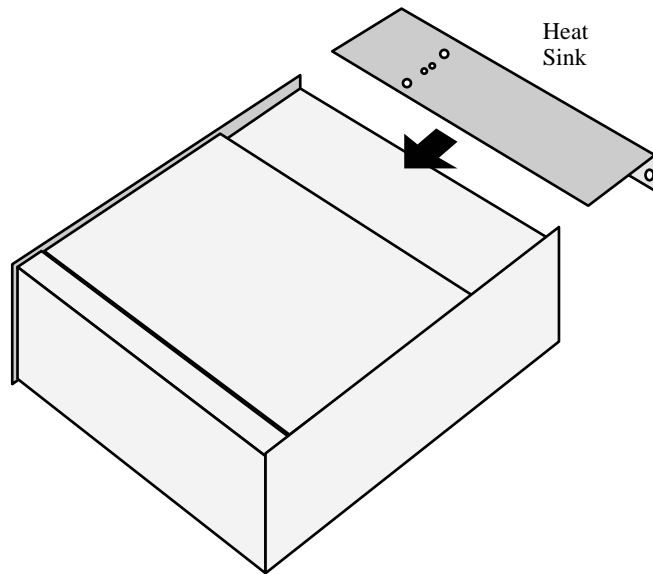
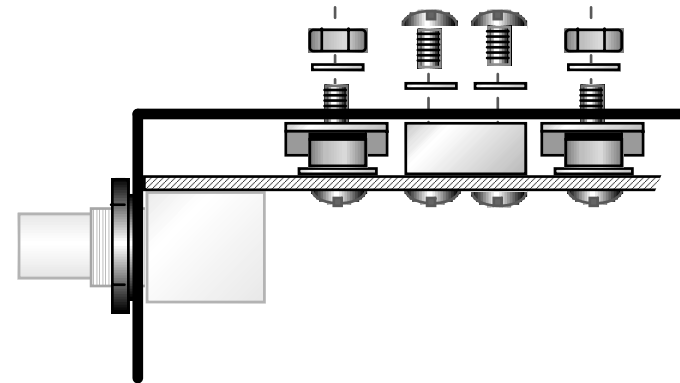

Figure 6-33
Figure 6-34
- Keeping the K2 on its left side, slip the heat sink over the rear-panel connectors and into position (Figure 6-33). Figure 6-34 shows how the heat sink and associated hardware appear in cross-section.
- Install the washers and finishing nuts that you removed earlier from the antenna and key jacks. (The antenna jack hardware is shown installed in Figure 6-34.)